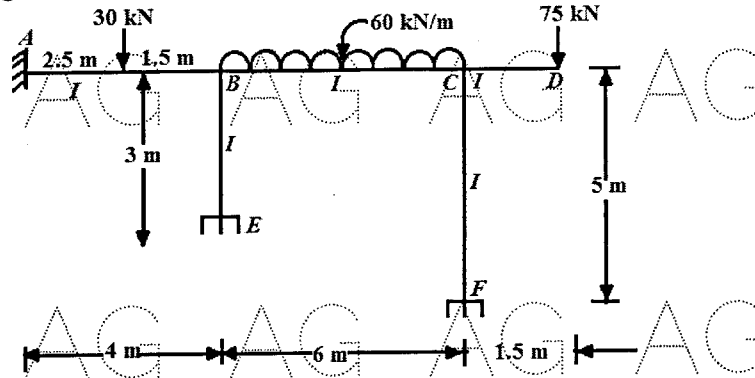

Figure 5
7. Analyse the rigid frame shown in figure 5 using the kani's method. [10]